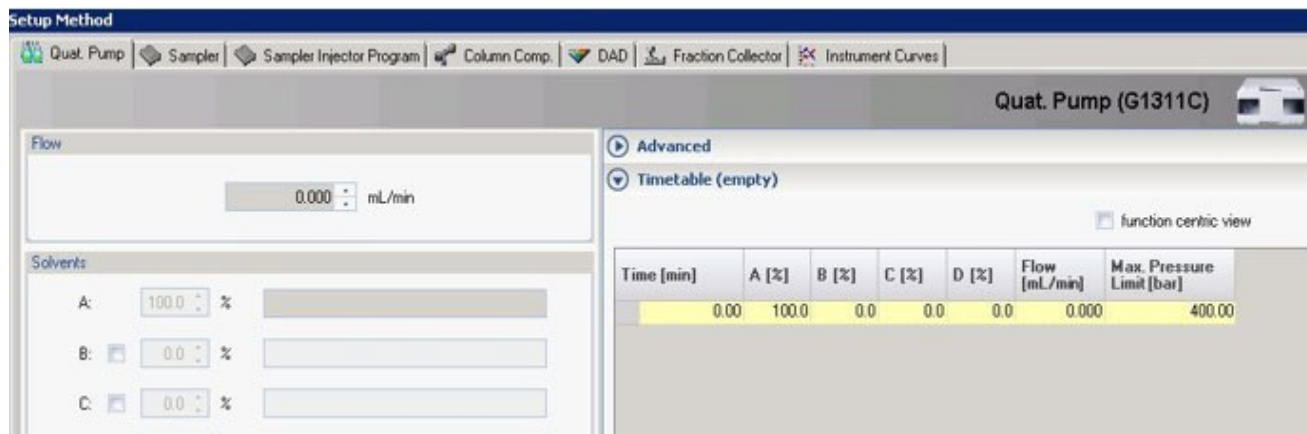

Figure 7: Method Editing Window
- 7.6.8 Under the “Timetable” section, enter time “0.00” and the corresponding percent of solvents at time zero. Insert a second line and enter the same post time as previously specified. The operator can also alter flow rates and pressure settings at specific time points within the run, if necessary. Click on “OK.” (Figure 7)